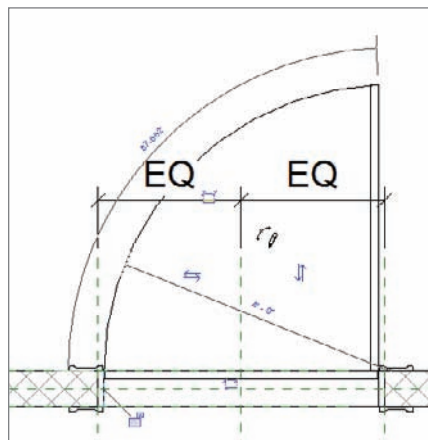

FIGURE 17.28 Drawing the plan swing arc
7. Draw an arc from the left side of the jamb to the top of the symbolic swing, as shown in Figure 17.28.